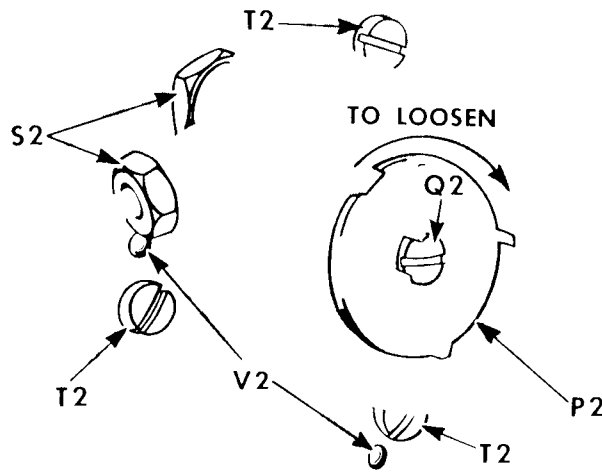

Fig. 48. Oil Pump
4. Remove the locking screw **Q2**, **Fig. 48** from the center of the upright arm shaft, by turning it over toward the left (counterclockwise).
5. Remove the impeller **P2**, by turning it over toward the **RIGHT** (clockwise) to loosen it, as instructed in **Fig. 48**.
6. Remove the three screws **T2**, **Fig. 48**.
1. Place oil pump body on underside of machine bed, so that position pins **V2**, slip into proper holes in machine casting as shown in **Fig. 48**.
6. Replace two oil pipes in oil pump body, as shown in **Fig. 48**, and securely tighten sleeve nuts **S2**.